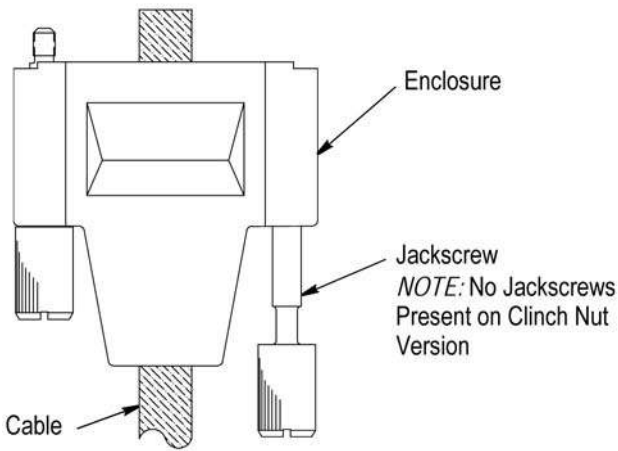

Figure 4
3. Place the cable through the shield as shown in Figure 4.